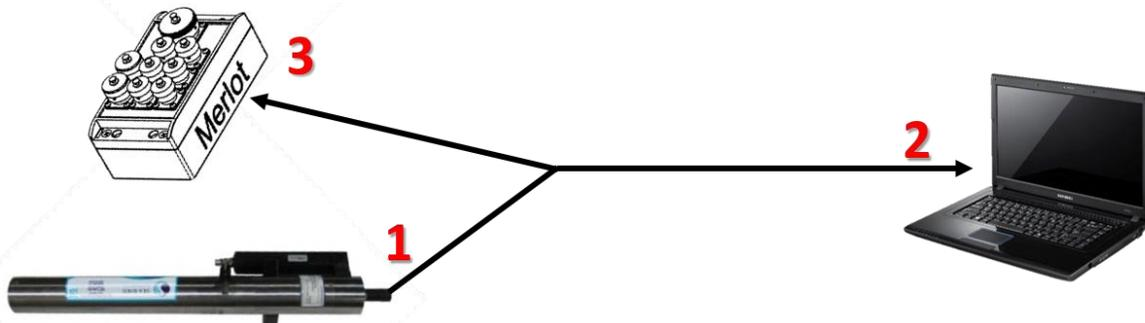
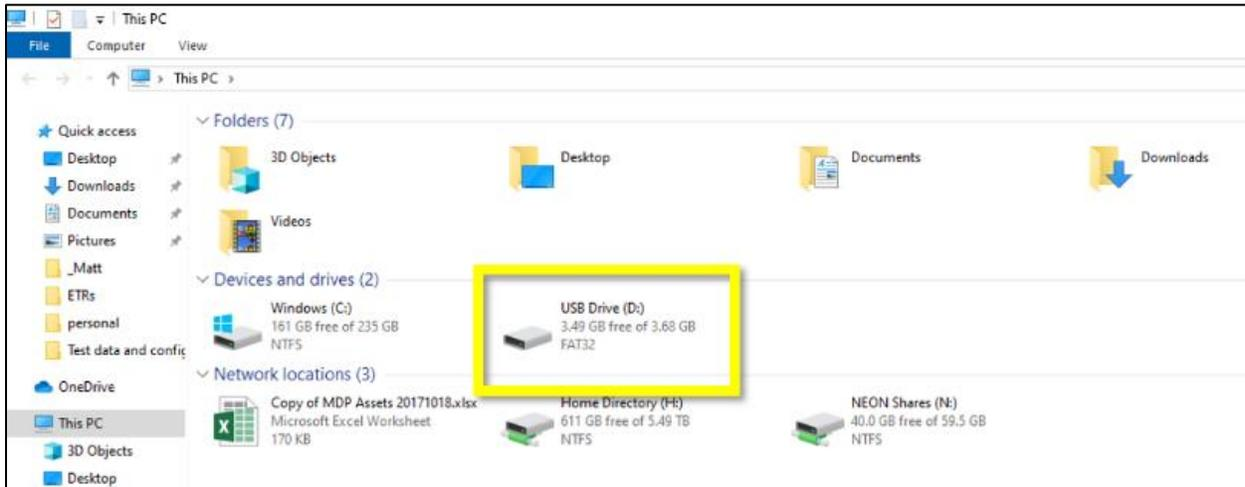

Figure 1. How to Connect to the SUNA with the SUNA Y-Cable - Order of Operations
Figure 2. Navigate to This PC and Click on USB Drive
To connect to the SUNA, plug into the SUNA sensor and USB into the Laptop, **THEN** plug the cable into the power supply or Grape (See AD [01] or AD [02], as applicable, for additional information). Follow the order of operations provided in **Figure 1**. Ensure the PoE Power Cable (Cable that connects to the Grape to the Comm Box) is disconnected from the Grape before plugging and unplugging sensors or the Y-cable into it.
1. After connecting to the SUNA in accordance with Section 4.2 (Figure 1), open your laptop and open a **File Explorer** window. Navigate to **This PC** and click on the **USB Drive (Figure 2)**. Note that your Drive letter may be different on your laptop.
*Note: Your laptop may not immediately recognize the SUNA as a hard drive due to its super capacitor, especially if the order of operations on connecting to the SUNA was not followed (see Figure 1 from the previous section). If you do not see the SUNA USB Drive, power down the sensor for approximately 15 minutes and try again, reconnecting the sensor in the order of operations in Section 4.2.*